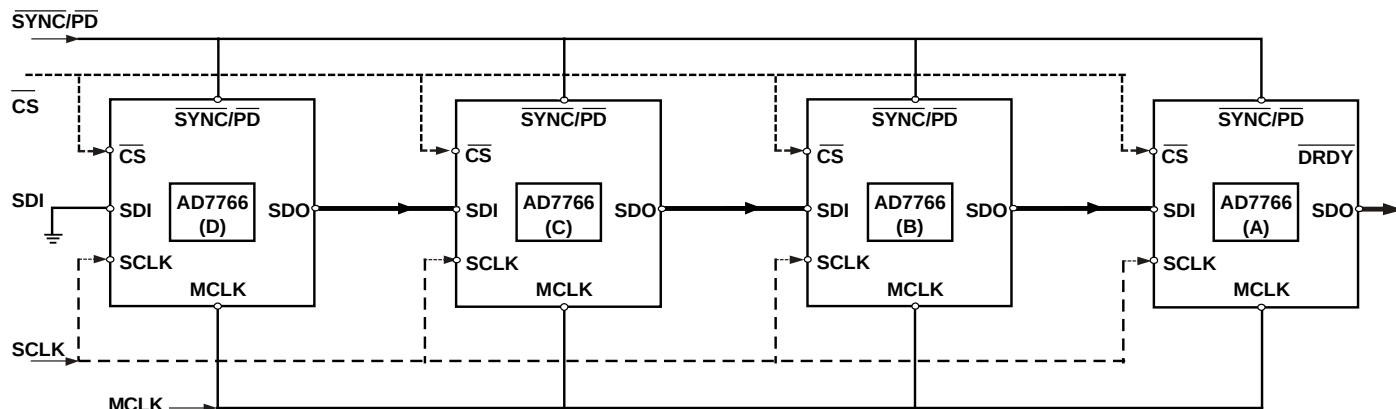
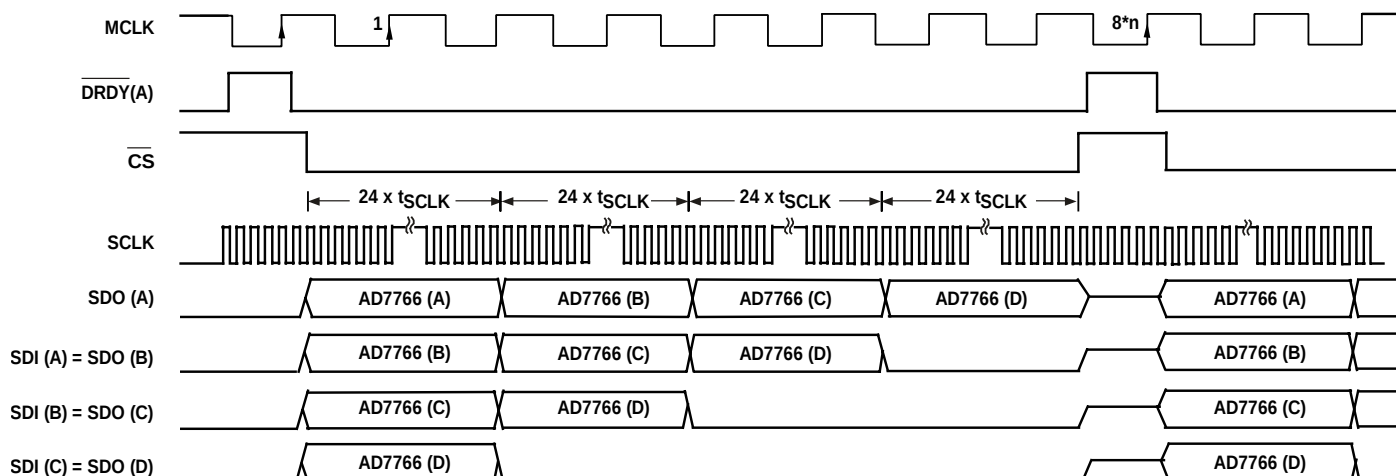

Figure 13 AD7766 Daisy chain configuration with 4 x AD7766 devices..
Figure 14 AD7766 Daisy chain Timing diagram. For AD7766 n=1, AD7766-1 n=2, AD7766-2 n=4. Driving the AD7766
The block diagram in Figure 13 shows the way in which devices must be connected in order to achieve daisy chain functionality. This scheme operates by passing the output data of the SDO pin of an AD7766 device to the SDI input of the next AD7766 device in the chain. The data then continues through the chain until it is clocked onto the SDO pin of the first device on the chain.
An example of a daisy chain of four AD7766 devices is shown in Figure 13 and Figure 14. In the case illustrated in Figure 13 the output of AD7766 (A) is the output of the full daisy chain. The last device in the chain (AD7766(D)) will have its Serial Data In (SDI) pin connected to ground. All the devices in the chain must use common MCLK, SCLK, $\overline{CS}$ and SYNC/PD signals.
After applying a $\overline{SYNC/PD}$ pulse to all the devices there is a delay (as listed in Table 7) before valid conversion data appears at the output of the chain of devices. As shown in Figure 14 the first conversion result is output from the device labeled AD7766(A). This 24-bit conversion result is then followed by the conversion results from the devices B, C and D respectively with all conversion results output in an MSB first sequence. The stream of conversion results are clocked through each device in the chain and are eventually clocked onto the SDO pin of the AD7766 (A) device. The conversion results of the all the devices in the chain must be clocked onto the SDO pin of the final device in the chain while its $\overline{DRDY}$ signal is active low. This is illustrated in the example shown where the conversion results from devices A, B, C, & D are be clocked onto SDO (A) in the time between the falling edge of $\overline{DRDY}$ (A) and the rising edge of $\overline{DRDY}$ (A).
As shown in Figure 13 the number of SCLK falling edges that occur during the period when $\overline{DRDY}$ (A) is active low must match the number of devices in the chain multiplied by 24 (the number of bits that must be clocked through onto SDO (A) for each device).